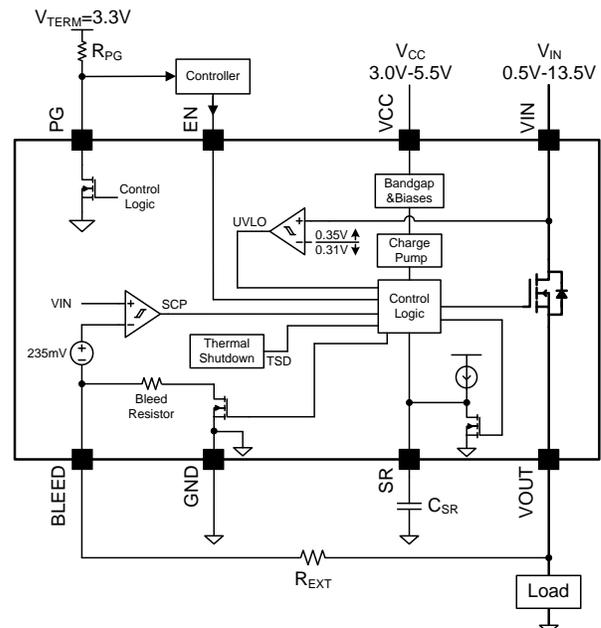
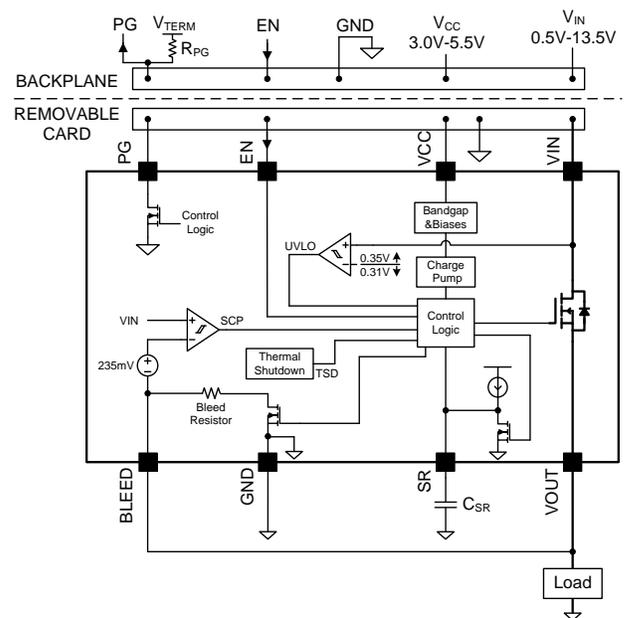

Figure 5. Typical Application Diagram – Load Switch
Figure 6. Typical Application Diagram – Hot Swap
The SQ24801DCD has an internal bleed resistor, R_{BLEED} , which is used to bleed the charge off of the load to ground after the MOSFET has been disabled. In series with the bleed resistor is a bleed switch that is enabled whenever the MOSFET is disabled. The MOSFET and the bleed switch are never concurrently active. It is required that the BLEED pin be connected to V_{OUT} either directly (as shown in Figure 6) or through an external resistor, R_{EXT} (as shown in Figure 5). R_{EXT} should not exceed 1 k Ω and can be used to increase the total bleed resistance. Care must be taken to ensure that the power dissipated across R_{BLEED} is kept at a safe level. The maximum continuous power that can be dissipated across R_{BLEED} is 0.4 W. R_{EXT} can be used to decrease the amount of power dissipated across R_{BLEED} .
The SQ24801DCD has a power good output (PG) that can be used for indicating when the gate of the MOSFET is fully charged. The PG pin is an active-high, open-drain output that requires an external pull up resistor, R_{PG} , greater than or equal to $1k\Omega$ to an external voltage source, V_{TERM} , compatible with input levels of other devices connected to this pin (as shown in Figures 5 and 6). If the power good feature is not used in the application, the PG pin should be tied to GND.
The SQ24801DCD is equipped with controlled output slew rate which provides soft start functionality. This limits the inrush current caused by capacitor charging and enables these devices to be used in hot swap applications. The slew rate can be decreased with an external capacitor added between the SR pin and ground (as shown in Figures 5 and 6). With an external capacitor present, the slew rate can be determined by the following equation:
Once active, the circuitry monitors the difference in the voltage on the V_{IN} pin and the voltage on the BLEED pin. In order for the V_{OUT} voltage to be monitored through the BLEED pin, it is required that the BLEED pin be connected to V_{OUT} either directly (as shown in Figure 6) or through a resistor, R_{EXT} (as shown in Figure 5), which should not exceed $1k\Omega$. With the BLEED pin connected to V_{OUT} , the short circuit protection is able to monitor the voltage drop across the MOSFET.